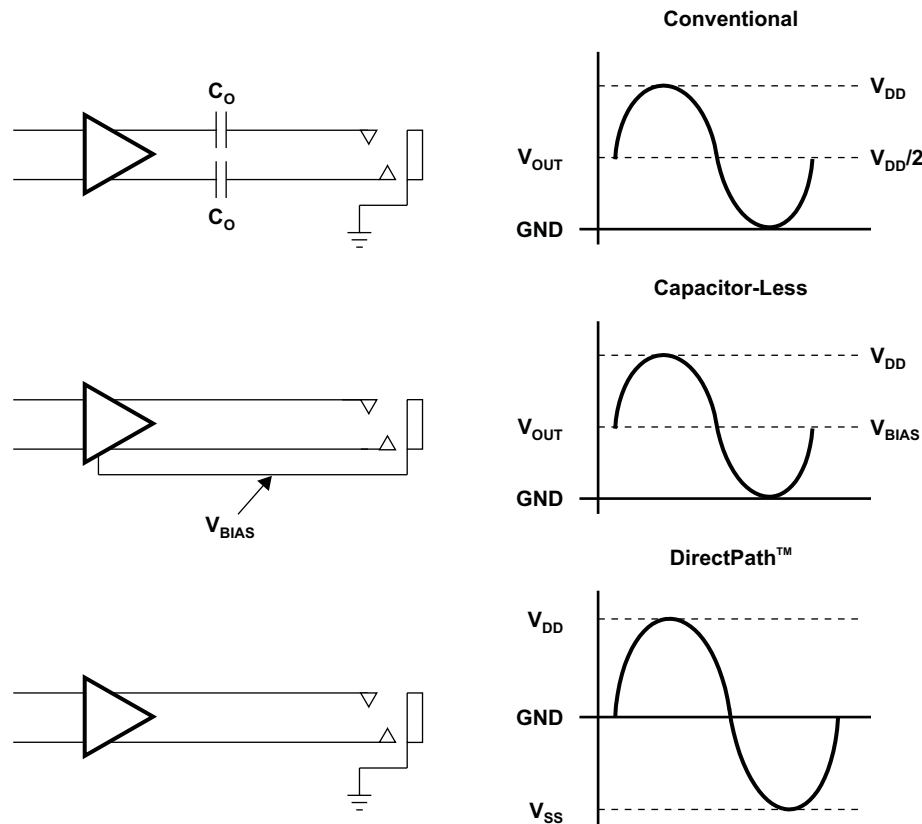

Figure 43. Amplifier Applications
The headphone amplifier has a fixed gain of –1.5 V/V. It uses single-ended (SE) inputs. The DirectPath™ amplifier architecture operates from a single supply but makes use of an internal charge pump to provide a negative voltage rail. Combining the user-provided positive rail and the negative rail generated by the IC, the device operates in what is effectively a split supply mode. The output voltages are now centered at zero volts with the capability to swing to the positive rail or negative rail. The DirectPath™ amplifier requires no output dc blocking capacitors and does not place any voltage on the sleeve. The block diagram and waveform of Figure 43 illustrate the ground-referenced headphone architecture. This is the architecture of the TPA6045A4C.
Single-supply headphone amplifiers typically require dc-blocking capacitors. The capacitors are required because most headphone amplifiers have a dc bias on the outputs pin. If the dc bias is not removed, the output signal is severely clipped, and large amounts of dc current rush through the headphones, potentially damaging them. The left-side drawing in Figure 43 illustrates the conventional headphone amplifier connection to the headphone jack and output signal.
Two different headphone amplifier applications are available that allow for the removal of the output dc blocking capacitors. The capacitor-less amplifier architecture is implemented in the same manner as the conventional amplifier with the exception of the headphone jack shield pin. This amplifier provides a reference voltage, which is connected to the headphone jack shield pin. This is the voltage on which the audio output signals are centered. This voltage reference is half of the amplifier power supply to allow symmetrical swing of the output voltages. Do not connect the shield to any GND reference, or large currents will result. The scenario can happen if, for example, an accessory other than a floating GND headphone is plugged into the headphone connector. See the second block diagram and waveform in Figure 43.